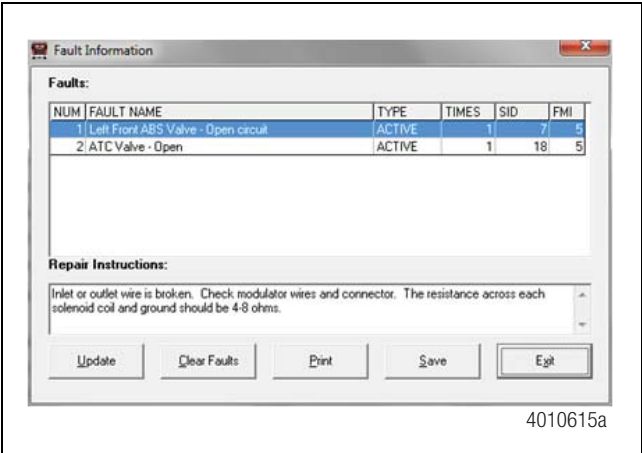
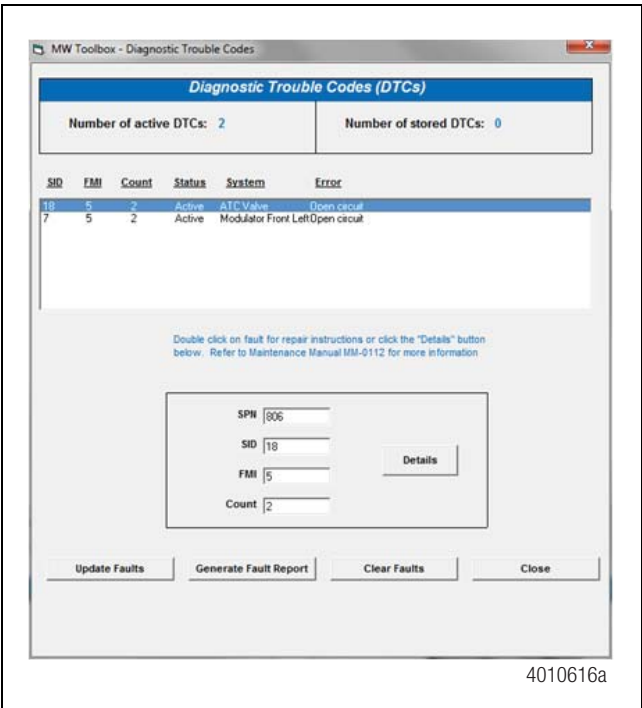

Figure 3.9
Figure 3.10
- 7. From the pull-down menu, select **Faults** or **Diagnostic Trouble Codes**. This will open the Fault Information screen. Figure 3.9 and Figure 3.10.